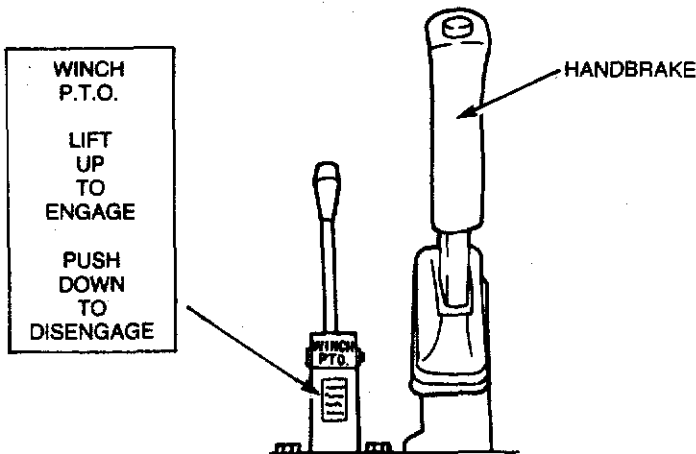

Figure 2-9 Winch/PTO control operation
- c. Depress the clutch pedal and select reverse gear, then pull up the winch/PTO control in the seat base (see Fig. 2-9) to engage the winch drive. Increase engine speed to approximately 1300 rpm then slowly release the clutch pedal to begin winding out the winch rope.
- c. Depress the clutch pedal and select a low forward gear, then pull up the winch/PTO control in the seat base (see Fig. 2-9) to engage the winch drive. Increase engine speed to approximately 1300 rpm then slowly release the clutch pedal to begin winding in the winch rope.